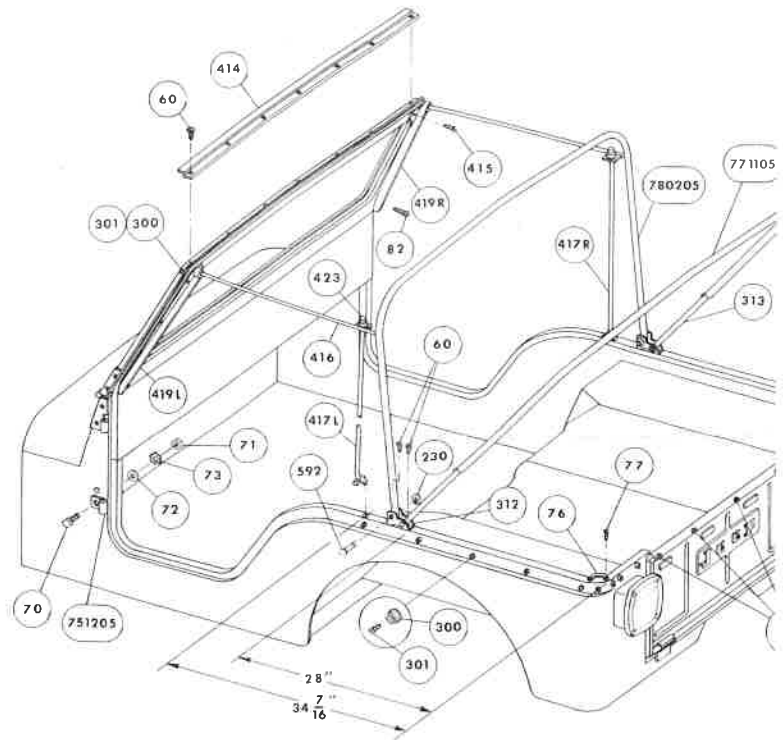

FIGURE 3
2. FRONT-FORMER: Center Front-Former (P/N 414) on top front surface of windshield. Position front edge of part flush with front center area of windshield. Mark hole locations. Center punch and drill seven (7) 1/8" diameter holes. Install using seven (7) #10 x 1/2" Self-Tapping-Screws (P/N 60). See Figures 3 & 4.
3. DOOR-SEALS: Position Door-Seal (P/N 419L) by matching contour of upper portion of part with windshield frame. Move outside surface of lower end of seal flush with door recess and outside edge of dash panel. Mark hole locations. Center punch and drill four (4) 1/8" diameter holes. Install seal using three (3) #8 x 1/2" Phillips Head Self-Tapping Screws (P/N 415) and one (1) #10 x 1 1/2" w/#8 Oval Phillips Head Screw (P/N 82). Repeat to install opposite Door-Seal (P/N 419R). See Figures 3 & 4.
A. (5105 Top) Mark location of 1/4" diameter holes 34-7/16" forward from rear of body as shown in Figure 3. Center punch and drill two (2) 1/4" diameter holes.